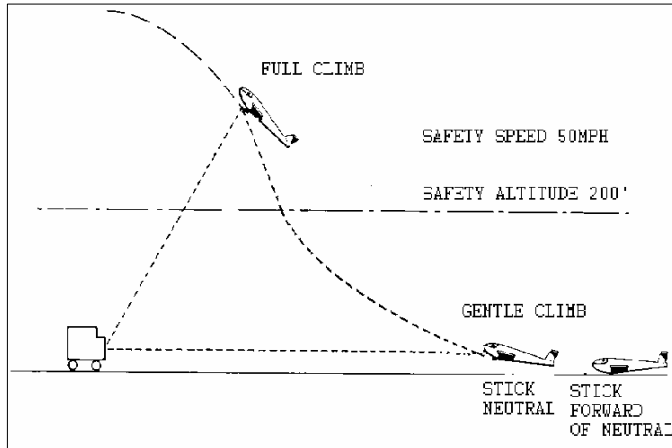

Figure 2-6-2 Controlled Climb Angle
17. The nose shall be raised progressively to the best climb angle only after it is safe to do so. The increase in attitude shall be smooth with the maximum climb attitude achieved only after passing through 200 feet AGL while maintaining an airspeed of at least 50 mph (Figure 2-6-2). See notes on winch/auto launch on page 2-5-8, para 22.